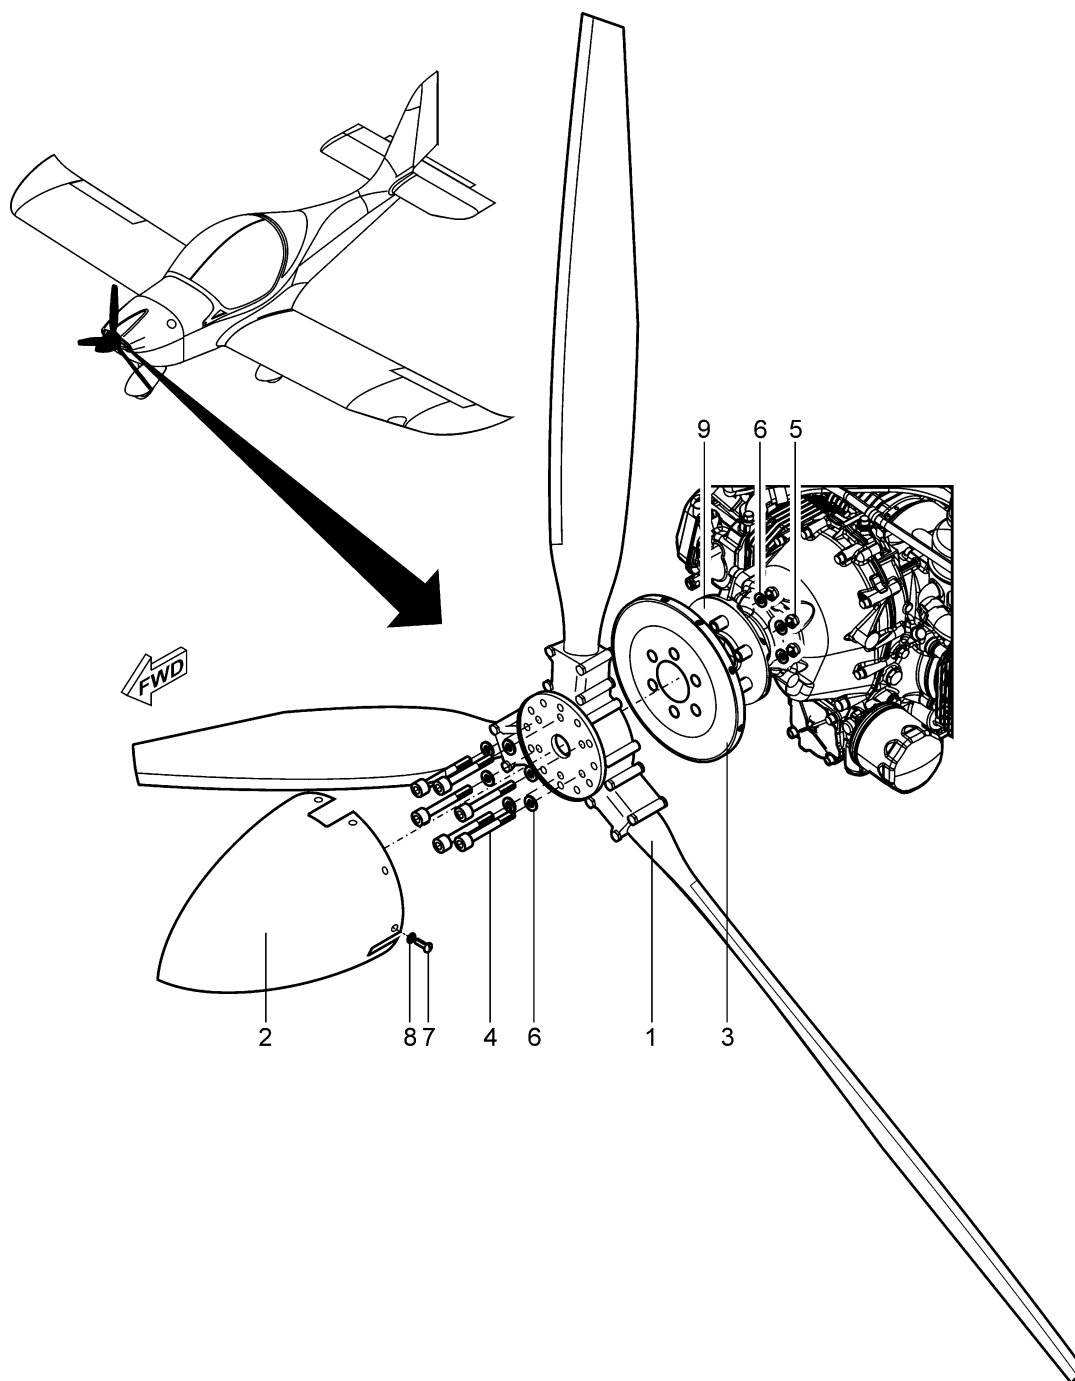
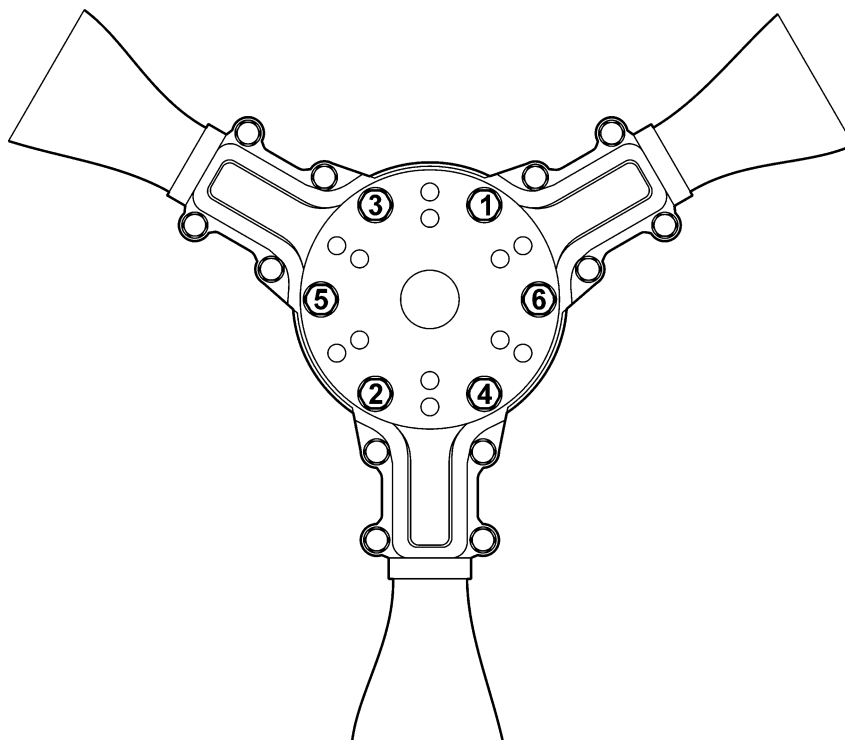

Fig. 2 –WarpDrive HPL propeller – removal / installation
Fig. 3 – Bolt tightening sequence
- 1.3.1.3 Remove the screws (7, Fig. 2) with washers (8) and remove the propeller spinner (2).
- 1.3.3.1 Install the propeller spinner with screws (7, Fig. 2) and washers (8).
- 1.3.4.1 Remove the lockwire from the bolt heads (4, Fig. 2).
- 1.3.5.2 Install the bolts (4, Fig. 2) with washers (6) on the propeller hub; put the propeller backplate (3) on the bolts.
- 1.3.5.4 Tighten the nuts (5, Fig. 2) in the sequence as shown in Fig. 3 with a torque 20,34 Nm (15 ft-lb).
- 1.3.5.5 Safety the bolt heads (4, Fig. 2) in pairs with the lockwire in accordance with AC 43-13.
- 1.3.5.7 Attach the spinner with the screws (7, Fig. 2) with washers (8).
Legend to Fig. 2